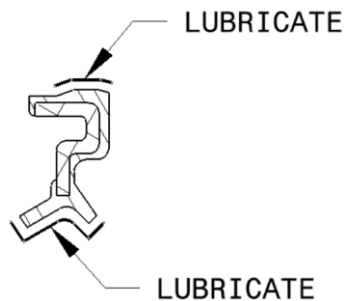

Figure 1 Lubricate the seals
Thus we are updating these assemblies with low profile all metal lock nuts that meet the minimum of one thread exposure above the nut under all conditions. The low profile nut provides distinct visual indication of proper thread engagement. Use of the existing nut is still an accepted configuration; however, a different torque value is required. Refer to Figures 1 and 2 for configuration examples.
- (1) When returning the wheel assembly to service, apply a liberal amount of Mobile Aircraft grease SHC-100 to the bearings per PRM 78, the mating cavity areas, and lightly coat all contact surfaces of the grease seals (see Figure 1). Install rubber lip grease seals per PRM 97.
- (2) After installation of the wheel assembly on the aircraft, torque the axle nut to manufacturer's recommendation and secure with cotter pin as specified in the Airframe Owner's Handbook, install hubcap and secure with snap ring as applicable.
- (3) Make a logbook entry referencing the change of hardware Record the flight hours from the Hobbs meter, the length of time wheels have been in service, number of tire changes, the torque applied to the tie bolt nuts, inflation pressure, and date that the aircraft is returned to service.